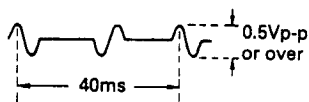

Figure 43.
2. Monitoring AJ pin ③ with an oscilloscope (internal trigger), check that the requirements given in Figure 43 are met.